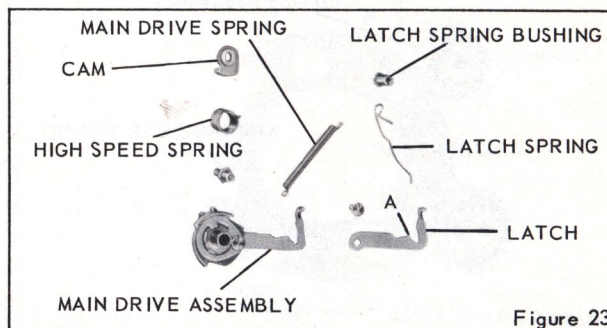

Figure 23
4. Unhook the MAIN DRIVE SPRING, figure 23, from the MAIN DRIVE SPRING STUD, figure 29.
3. Place the long end of the spring against the inner side of the blade controller LATCH SPRING BUSHING, figure 23.
4. Unhook the LATCH SPRING, figure 23, from the main drive LATCH.
7. MAIN DRIVE ASSEMBLY, figure 23, to which is attached the main drive spring.
1. Apply a thin film of grease (Texaco Unitemp-RCX169 Grease) to the slot on the main drive assembly where it engages the stop stud on the SETTING LEVER, figure 27; on the MAIN DRIVE STUD, figure 29; on the LATCH, figure 23, at the point of contact with the LATCH SPRING, and on the latch where it contacts the RETARDING SECTOR STUD, figure 29. This area of the latch should be burnished before applying the lubricant.
11. Blade controller **LATCH SPRING BUSHING**, figure 23, and the **LATCH SPRING**.